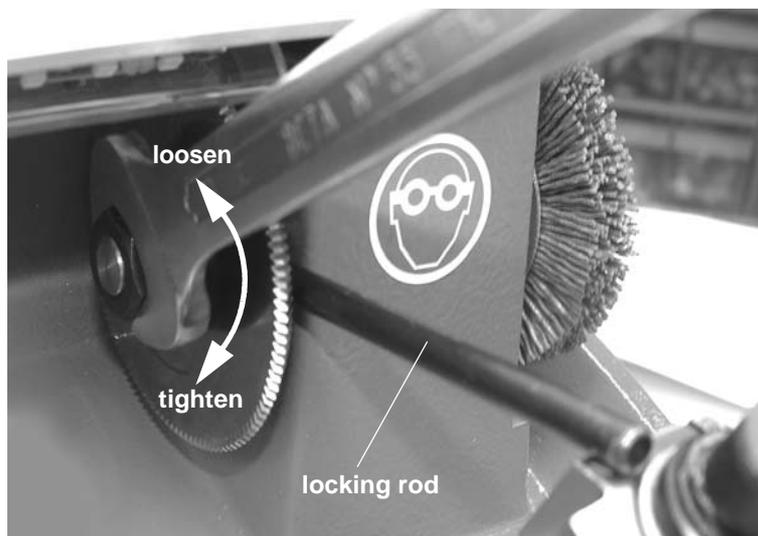

Fig. 17
- 1) Slot the locking rod (standard) into the hole of the cutting tool shaft (fig. 17).